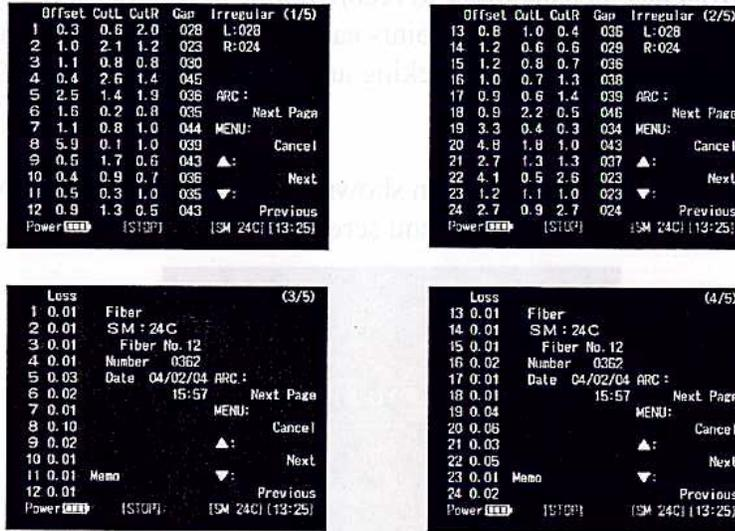

Figure 48. Stored Splice Data
- Figure 48 shows splice loss data for a 12-fiber ribbon splice.